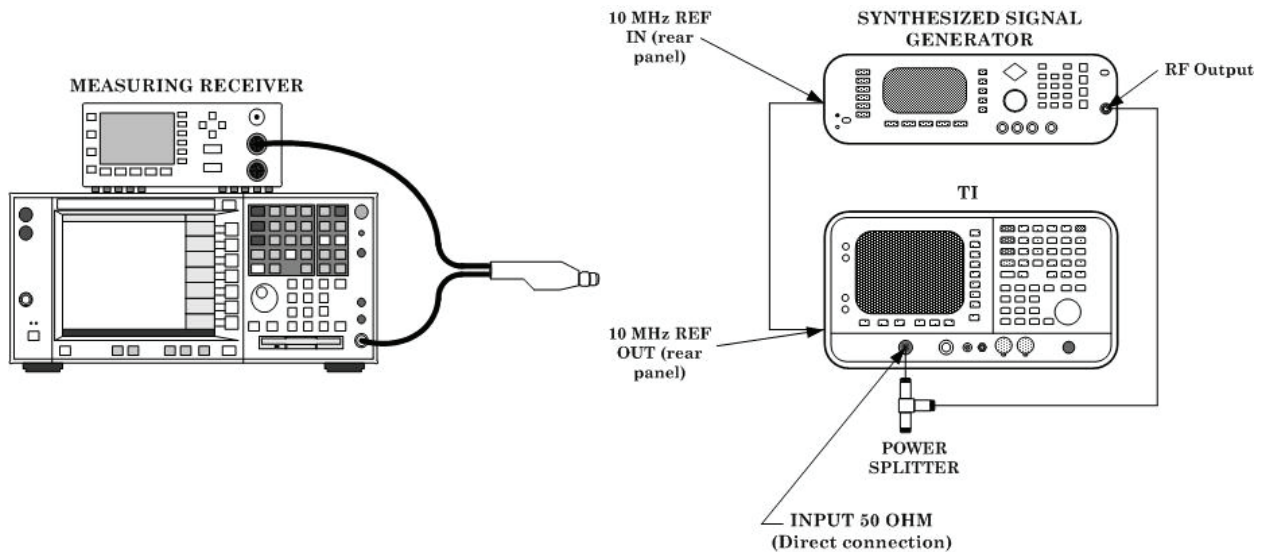

Figure 4. Frequency response equipment setup.
(1) Connect equipment as shown in figure 4.